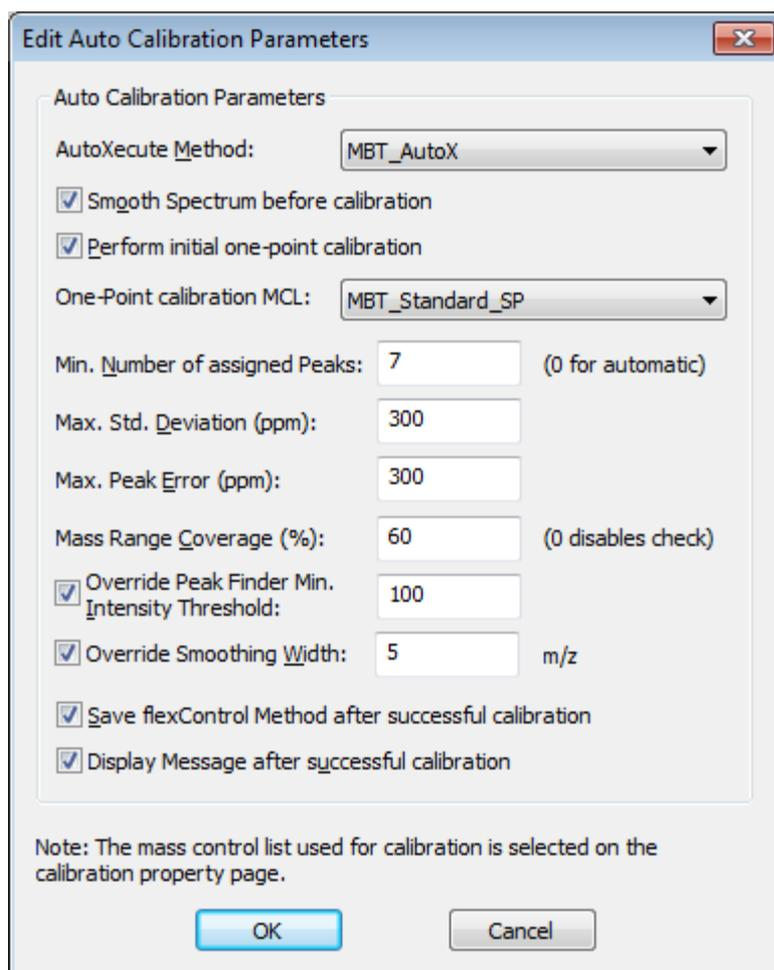

Figure 7 Edit Auto Calibration Parameters dialog
5. Enter or check the auto calibration parameter settings shown in Figure 7. Then click the **OK** button.